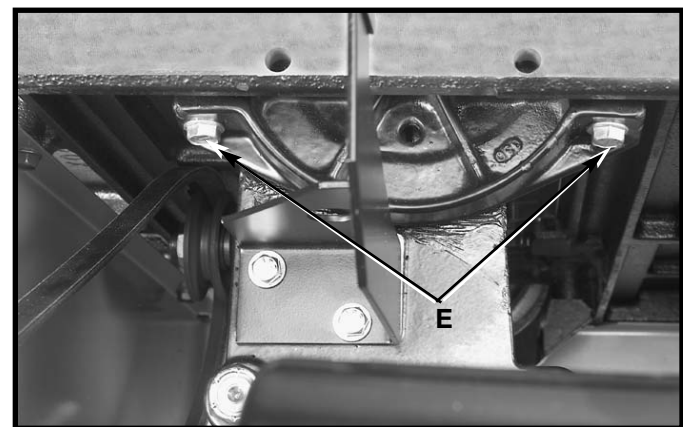

Fig. 64
1. Lower blade. Remove blade guard and table insert. With a 1/2" wrench, loosen the 4 front and rear trunnion mounting bolts (E) Fig. 64. **NOTE:** Only the 2 rear trunnion mounting bolts are shown.
3. To check blade alignment, follow (**CHECKING BLADE ALIGNMENT**) procedure until proper alignment is achieved. **Tighten 4 trunnion bolts (E).**
4. Check blade alignment again after tightening bolts to confirm alignment. If alignment is off, loosen the 4 trunnion bolts (E) and repeat the above steps until proper alignment is achieved **with bolts fully tightened.**